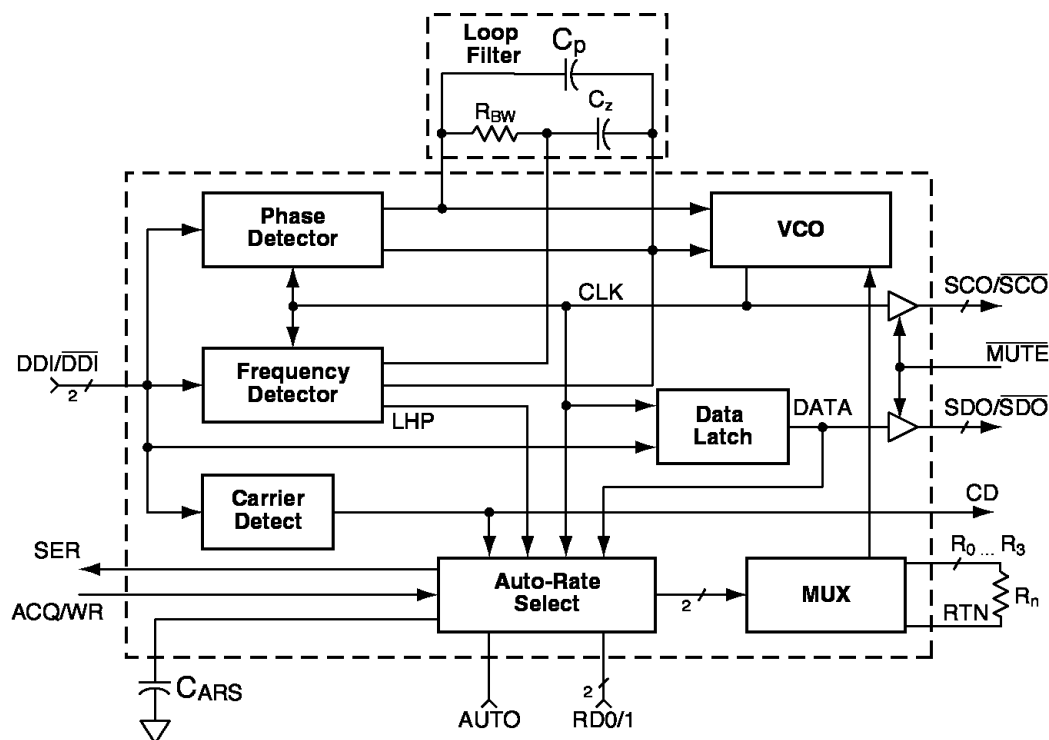

Figure 15. Functional Block Diagram
The CLC016 Data Retiming PLL, Figure 15, has three main functions: Frequency Detector (FD), Phase-Locked Loop (PLL) and Auto-Rate Select (ARS).
The external Loop Filter shown in Figure 15 is made up of passive components  $R_{BW}$ ,  $C_Z$ , and  $C_P$ . This external loop filter controls the PLL dynamics and acquisition time.